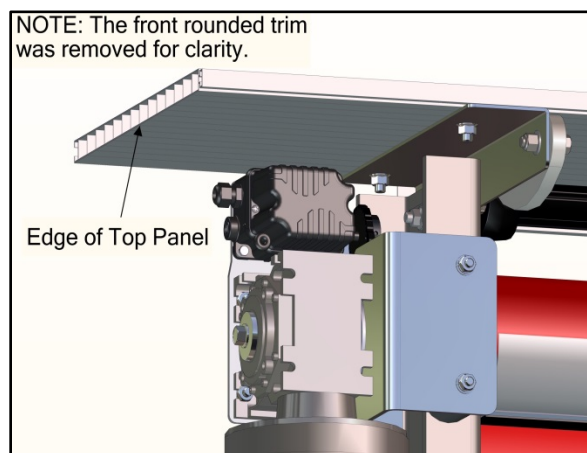

**Figure 28**
4. Install the rounded front corner trim on top panel. Use #8 x  $\frac{5}{8}$ -in pan head screws. (See Figure 28)